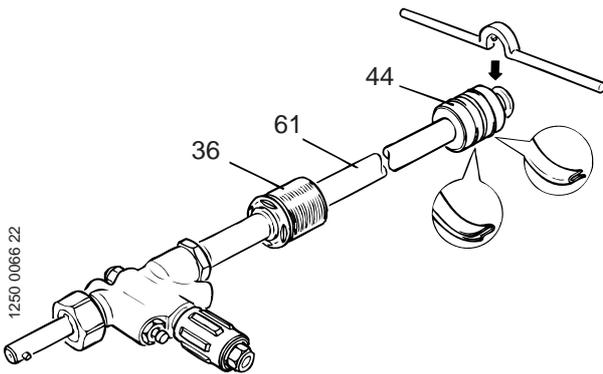
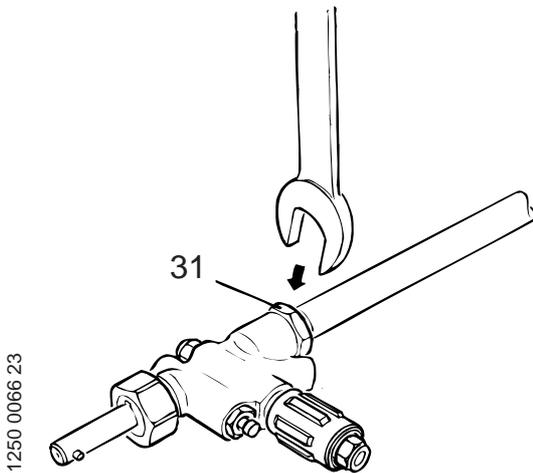
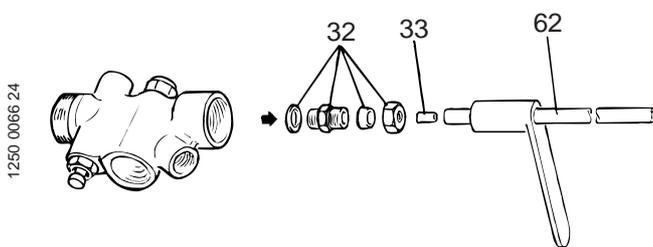

Fig. 8
Fig. 9
Fig. 10
1. Clamp the valve housing (1) in a vice.
2. Remove the piston (44) with the aid of a hook spanner (see fig. 8).
3. Pull the guide socket (36) off the piston rod (61).
4. Remove the nut (31) using a 55 mm combination spanner. See fig. 9.
5. Unthread the piston rod (61) with the aid of a pipe wrench.
6. Pull the insert (41) out of the piston rod (61).
7. Remove the centre pipe (62) with the aid of the box spanner. Remove the insert sleeve (33) and pipe coupling (32). See fig. 10.